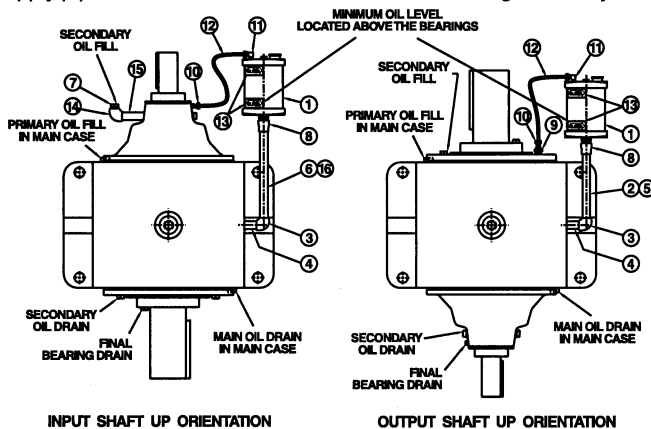

Figure 7.1a Vertical Service Shaft Orientations
Assemble components as shown in Figure 7.1a and Table 7.1b. It is difficult to determine all potential field installation interference points. If necessary please substitute different pipe fittings as required. In doing so, it is important that the bottom of the reservoir is at or above the uppermost bearing. Holes have been drilled by the factory to facilitate both right hand or left hand oil reservoir mounting. Apply pipe sealant to all threaded connections during assembly.
1. Begin by filling the reducer thru the primary oil fill in the maincase until full. Reference **Figure 7.1a**.
1. Begin by draining oil from main oil drain in maincase. Reference **Figure 7.1a**.